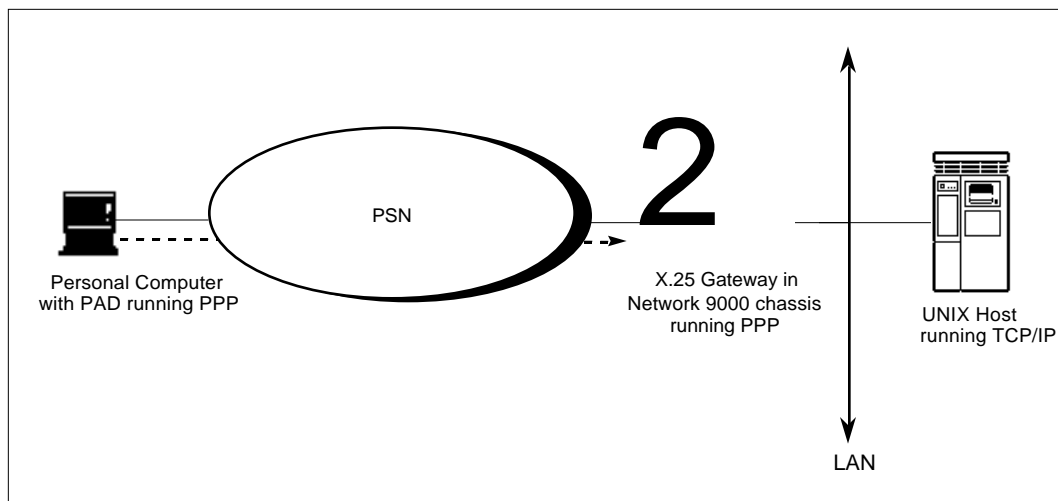

Figure 1-6. A PPP Connection on the X.25 Gateway
The Xyplex implementation of the point-to-point protocol (PPP) allows a personal computer (PC), a terminal server, or a dialup router to gain access to the Internet through an X.25 Gateway virtual port. PPP devices establish a virtual circuit on an X.25 Gateway, enable PPP on the virtual port, then begin sending data to or receiving data from the TCP/IP host on the remote LAN across the X.25 network. Figure 1-6 shows a personal computer with a PAD gaining access to an X.25 Gateway on the X.25 network and enabling PPP.
Figure 1-6 shows a PC making a connection to a virtual port on an X.25 Gateway over the PSN. The user on the PC logs on to the Xyplex command interface on the X.25 Gateway and enables PPP. The user can then return to the command interface on the PC and begin sending data over PPP to the UNIX host on the remote network through the X.25 Gateway.